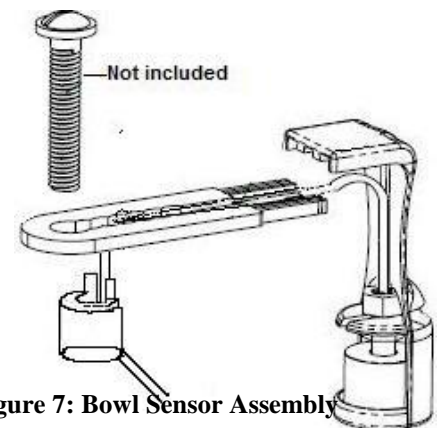

Figure 7: Bowl Sensor Assembly
3. Take the bowl sensor cable and gently feed the plug through the seat bolt hole on the Toilet Guardian side of the toilet. Pull the sensor cable from below the toilet rim until the bowl sensor rests snugly against the inside rim of the toilet bowl. (**See: Figure 7: Bowl Sensor Assembly**).